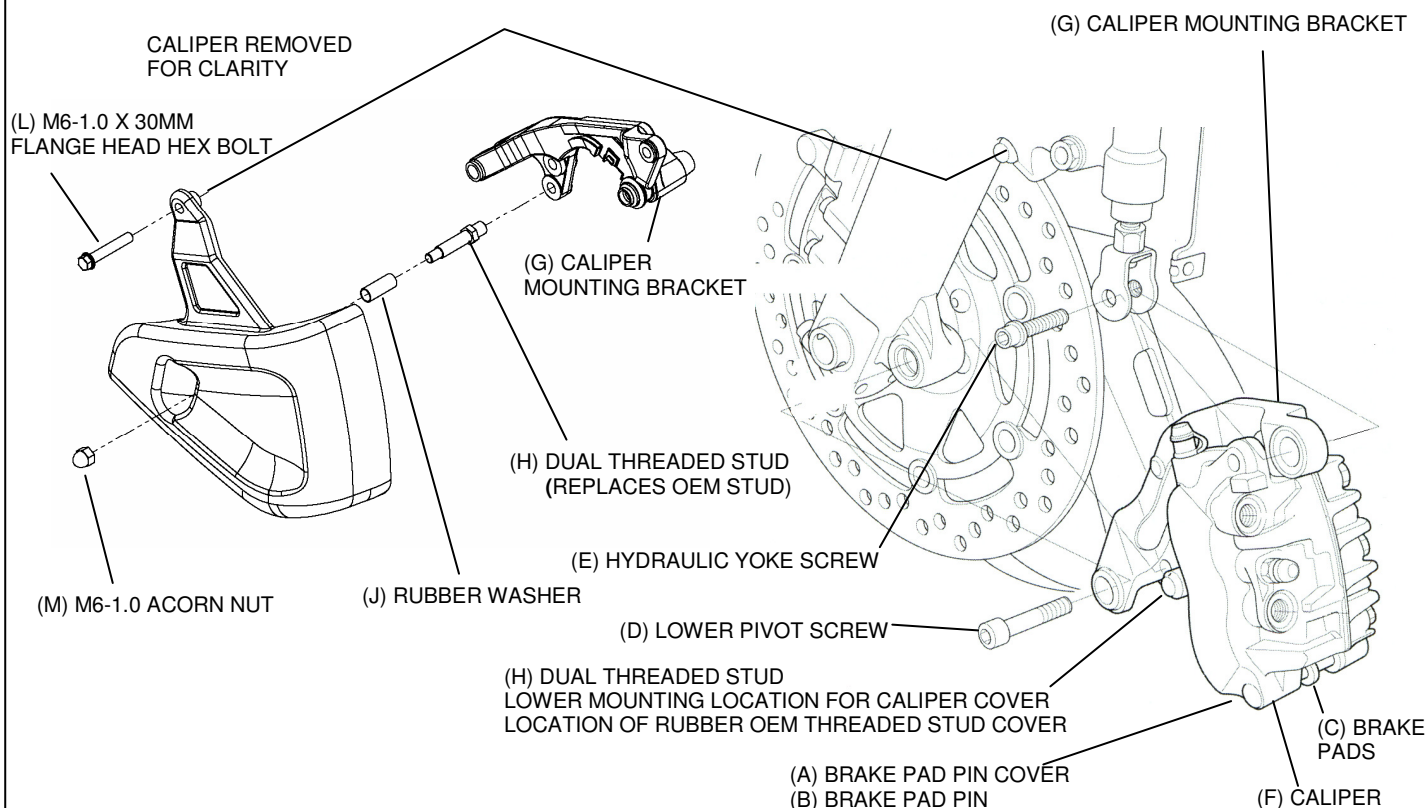

Figure 2 - LEFT SIDE CALIPER REMOVAL AND CALIPER COVER INSTALLATION (RIGHT SIDE NOT SHOWN)
INSTALLATION OF FRONT LEFT CALIPER COVER (K): SEE FIGURE 2
- 11.) PLACE FRONT LEFT CALIPER COVER (K) AS SHOWN SO THAT THE UPPER HOLE LINES UP WITH THE HOLE SHOWN AND SECURE IN PLACE USING THE M6-1.0 X 30MM LONG FLANGE HEAD HEX BOLT (L) SUPPLIED.
- 12.) SECURE THE LOWER END OF THE FRONT LEFT CALIPER COVER (K), AS SHOWN, USING THE M6-1.0 ACORN NUT (M), ONTO THE END OF THE DUAL THREADED STUD (H). **DO NOT OVER TIGHTEN**